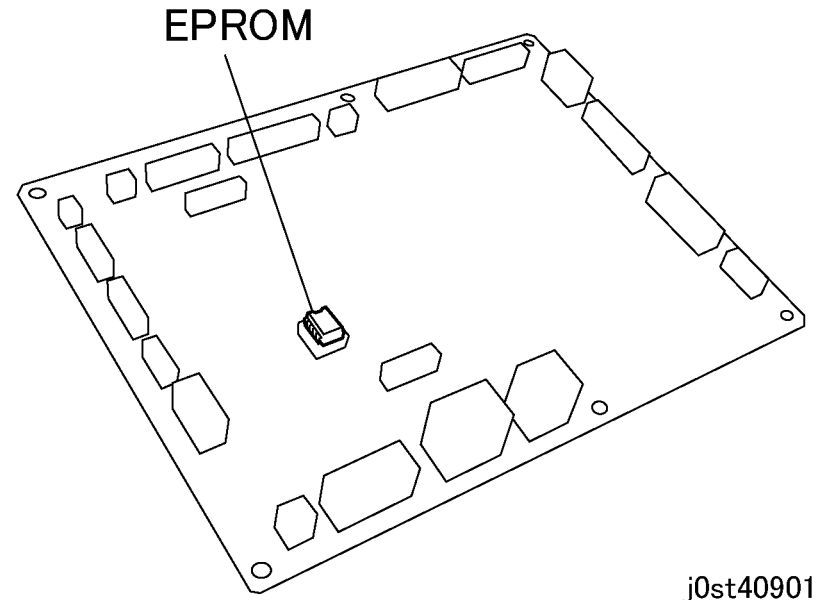

Figure 1 MCU PWB EPROM Location (j0st40901)
4. Remove EPROM from old MCU PWB and save for installation on new MCU PWB (Figure 1).